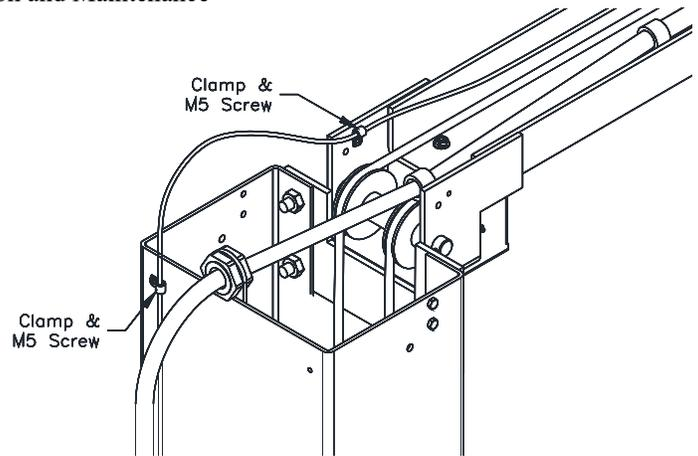

Fig. 10 – Lock Cable Routing
- 31) Secure Lock Release Cable at the top of each column extension as shown in **Fig 10**. Lock Release Cable should be routed on the opposite side of the Overhead Beam as the Idler Hose to prevent interference.